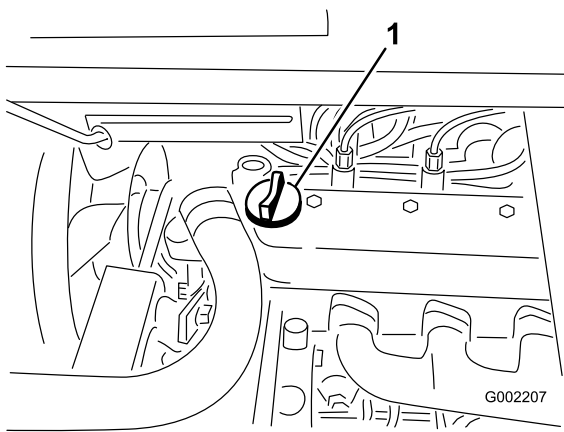

Figure 41
- If the oil level is low, remove the filler cap from the valve cover (Figure 41) and pour oil into the opening until the oil level is up to the Full mark on the dipstick; refer to Servicing the Engine Oil \(page 37\) for the proper oil type and viscosity.